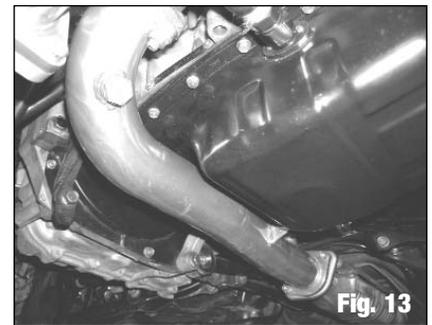

Fig. 13
8. Install the factory O2 sensor into the Exhaust Down-Pipe. Thread the three 10mm x 1.5 studs into the exhaust elbow, hand tight. Making sure the exhaust down-pipe gasket is in place, install the exhaust down-pipe onto the exhaust elbow using the provided 10mm x 1.5 flanged nuts. Using the stock donut gasket (if in good condition), attach the exhaust down-pipe to the stock catalytic converter using the factory bolts. Attach the down pipe to the lower exhaust bracket using the factory nuts (**See Fig. 13**). If you are using a secondary O2 sensor, you may install it into the additional hole in the down-pipe. If you are not using a secondary O2 sensor, install the supplied plug, using anti-seize on the threads.